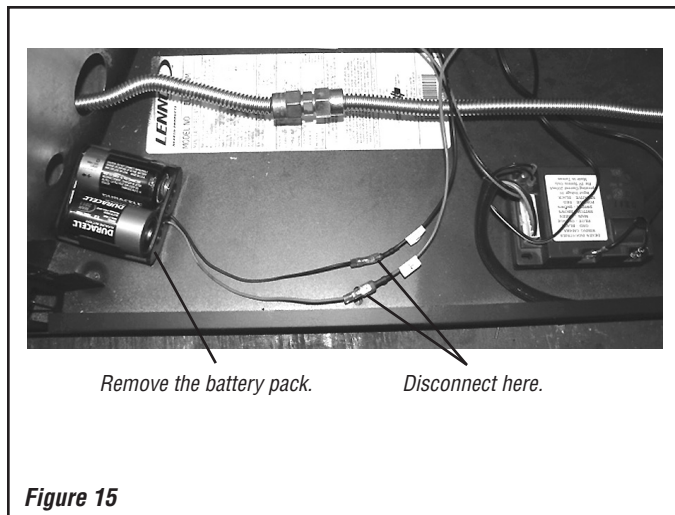

Figure 15
- 9A.3. Disconnect and remove the battery pack (**Figures 15 and 16**).